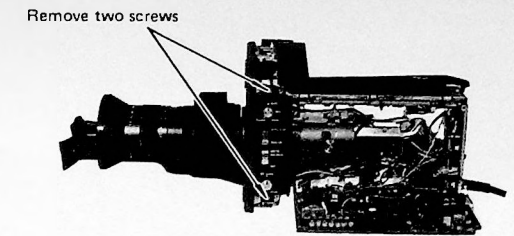

Fig. 7-11
- Remove the two screws on the control panel and remove the control panel from the chassis. (Fig. 7-11)